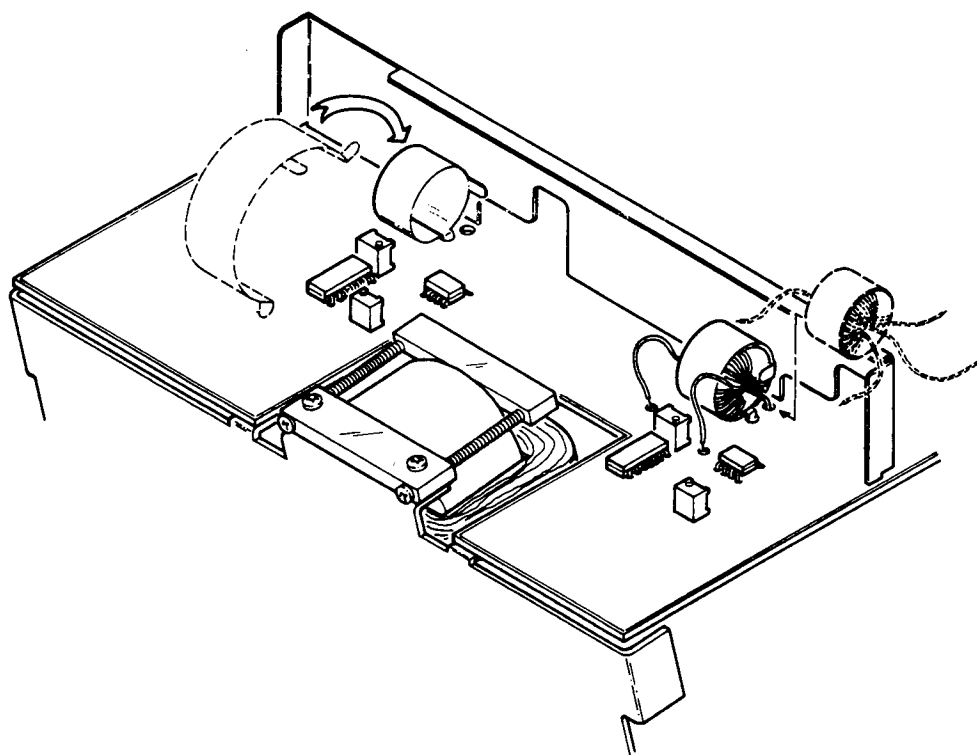

Fig. 1 - Toroid Shield Installation
- () 6. After first desoldering necessary wires (note color code and locations), wrap the included toroid shields around the signal transformers, T2250 and T2750 (refer to Fig. 1 for the shield installation portion of this procedure).